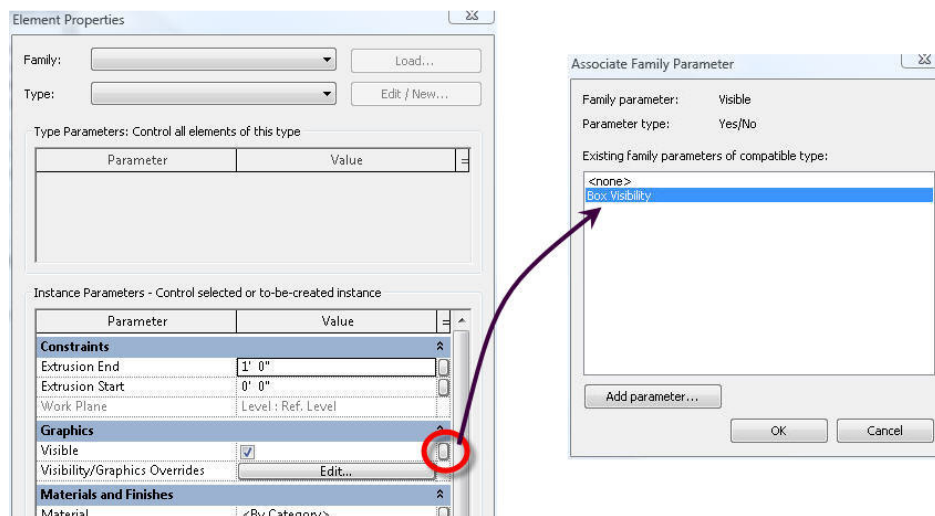

Figure 9. Object properties in families can be linked to parameters of the appropriate type.
7. Set the object's properties. To do this, do not select the method Properties tool on the ribbon. Technically the object doesn't exist yet, so selecting the Element Properties tool while in sketch mode will take you to the properties of whatever sketch linework you have selected. Instead, select the method-specific Properties button on the ribbon. Specific properties that you are interested in include the depth (in the case of an extrusion or blend), the material of the object, visibility and sub-category (if necessary). You can also set the properties after the object has been created and you have exited sketch mode. It is also important to note that you can link properties to parameters. For example, if you have created a Yes/No parameter, that parameter can be used to control the Visibility property of the object (see Figure 9).